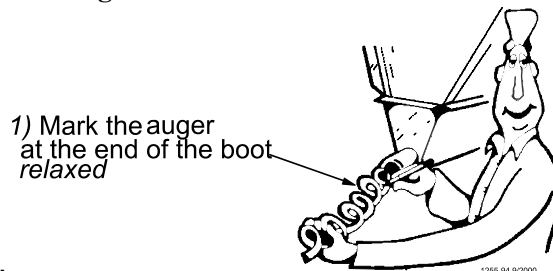

Figure 43. Measure the Auger from the relaxed position
10. Pull the auger at the boot end until it begins stretching. Then let it relax. In the *relaxed* position, mark the auger at the end of the boot. See **Figure 43**.